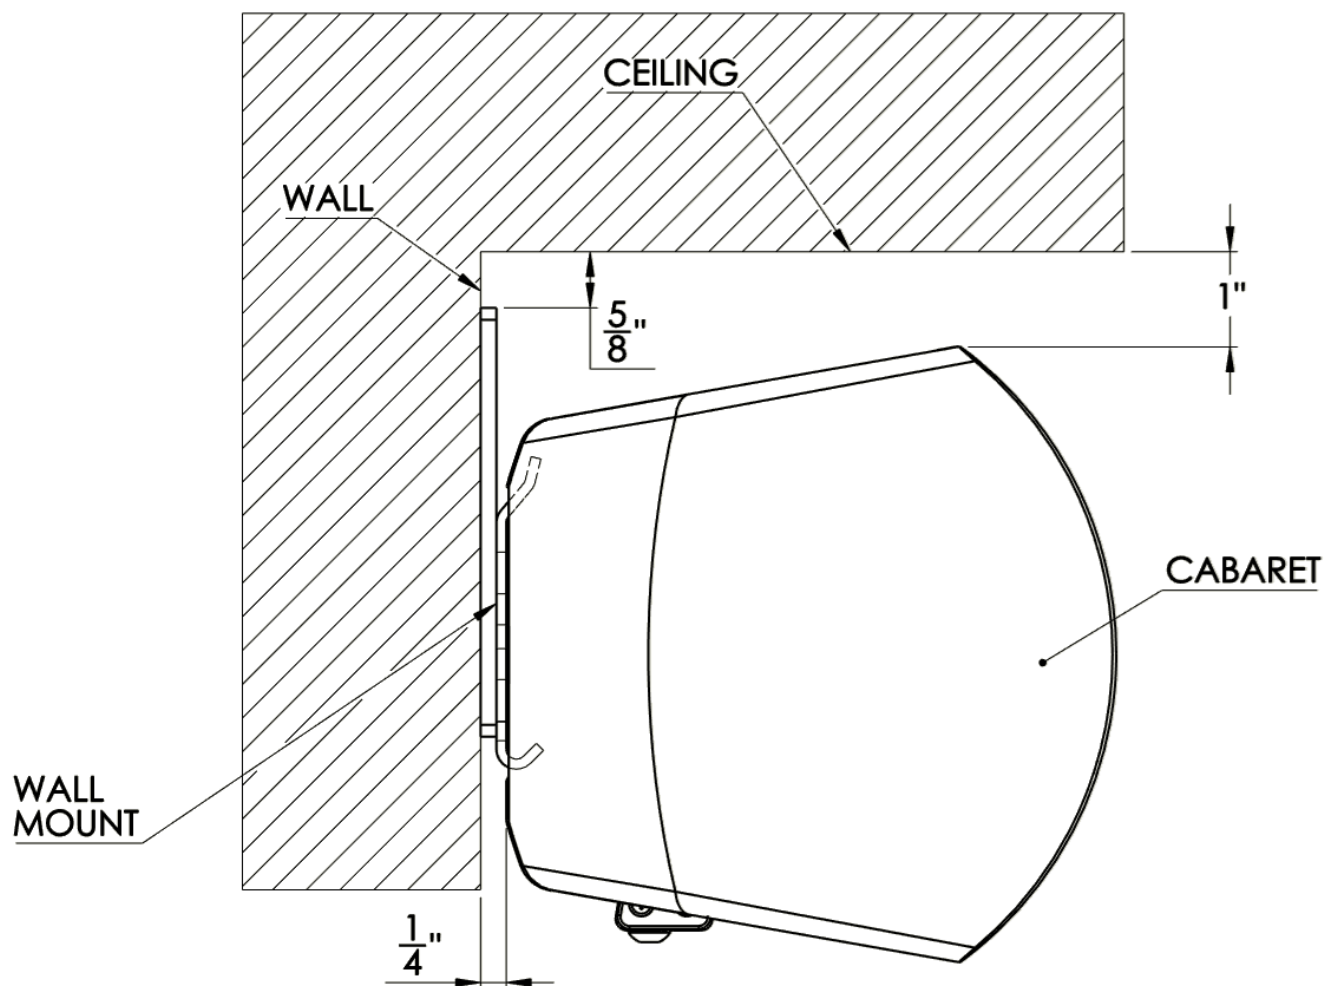

Figure 9: Wall mount detail
6. For the minimum clearance dimensions, (see figure 9).